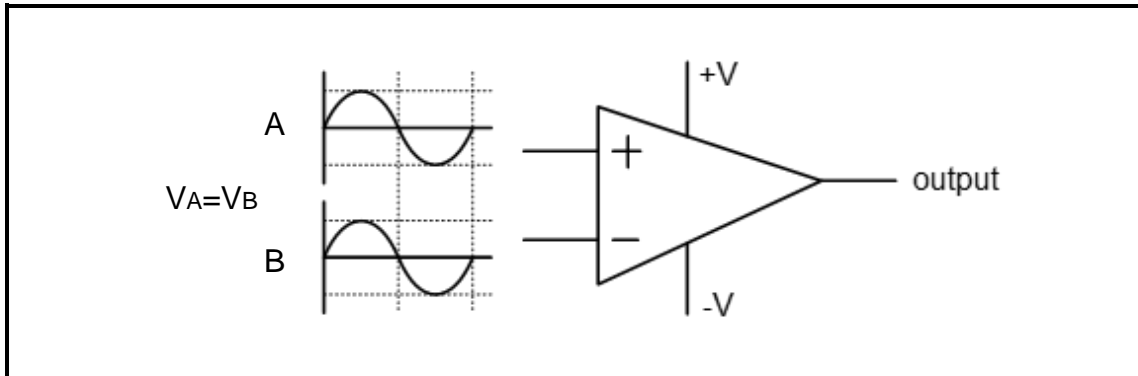

FIGURE 3.1: OPERATIONAL AMPLIFIER
3.1 FIGURE 3.1 below shows two signals with the same frequency and amplitude that are applied onto the inputs of a 741 op amp. Answer the questions that follow.